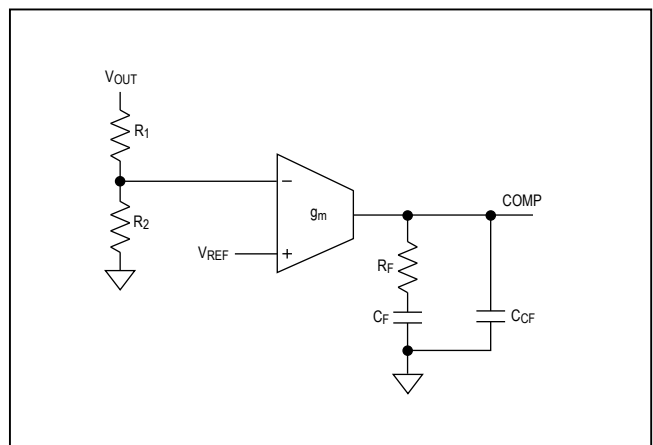

Figure 4. Type II Compensation Network
**Type II Compensation Network (See Figure 4)**
If  $f_{ZO}$  is lower than  $f_O$  and close to  $f_{PO}$ , the phase lead of the capacitor ESR zero almost cancels the phase loss of one of the complex poles of the LC filter around the crossover frequency. Therefore, a Type II compensation network with a midband zero and a high-frequency pole can be used to stabilize the loop. In Figure 4,  $R_F$  and  $C_F$  introduce a midband zero ( $f_{Z1}$ ).  $R_F$  and  $C_{CF}$  in the Type II compensation network also provide a high-frequency pole ( $f_{P1}$ ), which mitigates the effects of the output high-frequency ripple.
To calculate the component values for Type II compensation network in Figure 4, follow the instruction below: